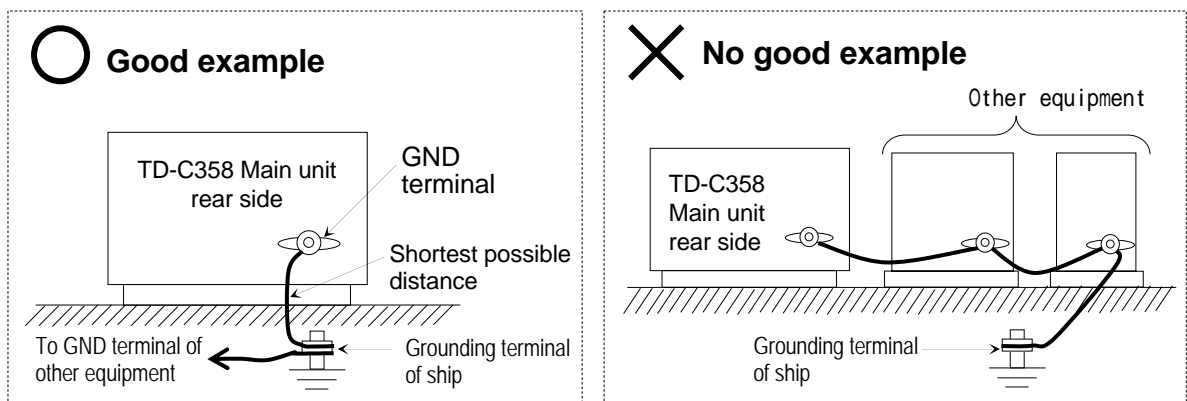

Fig. 3-20 Grounding of the main unit
- (1) Grounding should be made with KIV cable (0.5 x 30 mm or equivalent copper belt) directly to the nearest possible grounding point of the ship body (metal vessel) or copper plate (300 x 450 mm) at the bottom of the ship (non-metallic vessel) referring to Fig. 3-20 "Good example".
- (2) Do not directly connect the GND terminal of TD-C358 main unit with GND terminal of other equipment since it would cause the adverse effect by the noise trouble etc. (Refer to Fig. 3-20 "No good example")